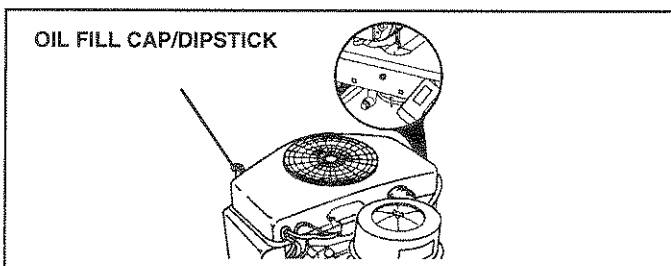

FIG. 10
### CHECK ENGINE OIL LEVEL (See Fig. 10)
- When mowing large areas, start by turning to the right so that clippings will discharge away from shrubs, fences, driveways, etc. After one or two rounds, mow in the opposite direction making left hand turns until finished (See Fig. 10).